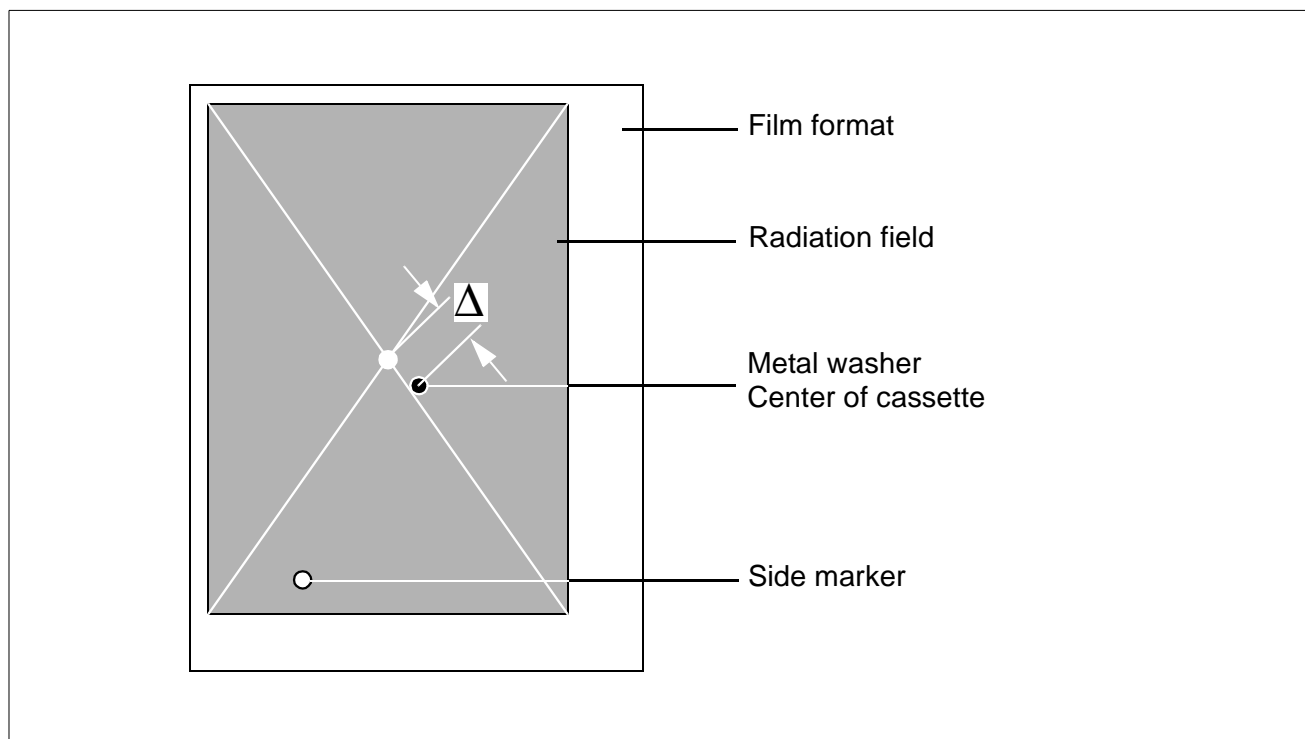

Fig. 3
- Mark the 24 cm x 30 cm (10"x12") cassette with a center marker (tape on a metal washer) and place on a second marker as a side marker (Fig. 3).
- Evaluate the center deviation Δ as shown in Fig. 3.